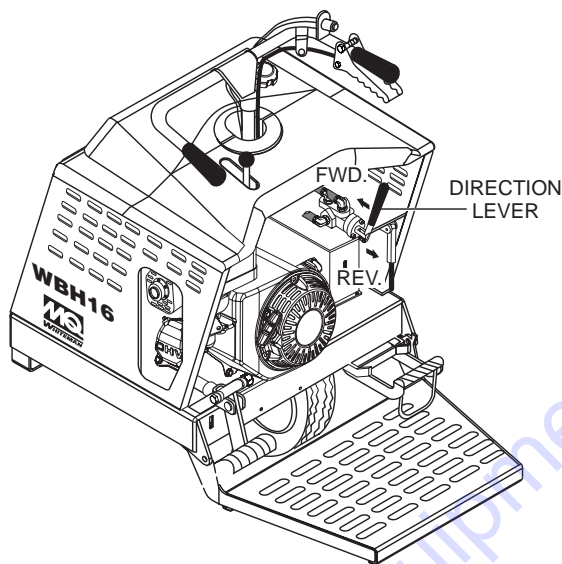

**Figure 20. Speed Control Lever**
3. Check the speed control lever (Figure 20) located on the right side of the handle bar. The speed control should work freely when squeezed by hand, and return to the **neutral** position when released.
5. Slowly squeeze the speed control lever slightly (Figure 20), for a short period of time to test the brake holding capacity. If the buggy moves forward, adjust the brakes as outlined in the maintenance section of this manual.
2. Squeeze the speed control lever (Figure 20) slightly until the buggy begins to move in a forward direction. Initially, let the buggy travel at about 3 MPH.